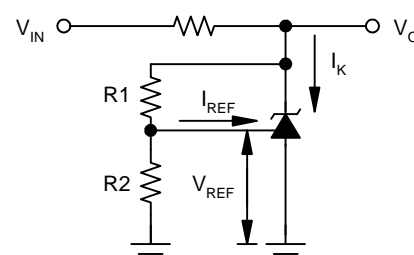

Figure 2. Test Circuit for $V_{KA} > V_{REF}$
The APL431 is a 3-terminal adjustable voltage reference with specified thermal stability over applicable commercial temperature ranges. Output voltage may be set to any value between V_{REF} (2.5 V) and 20 V with two external resistors (See Figure 2). When used with an photocoupler, the APL431 is an ideal voltage reference in isolated feedback circuits for 2.5V to 12V switching-mode power supplies. This device has a typical output impedance of 0.1 Ω . Active output circuitry provides a very sharp turn-on characteristic, making the APL431 excellent replacements for zener diodes in many applications, including on-board regulation and adjustable power supplies.
*2 : use Figure 2